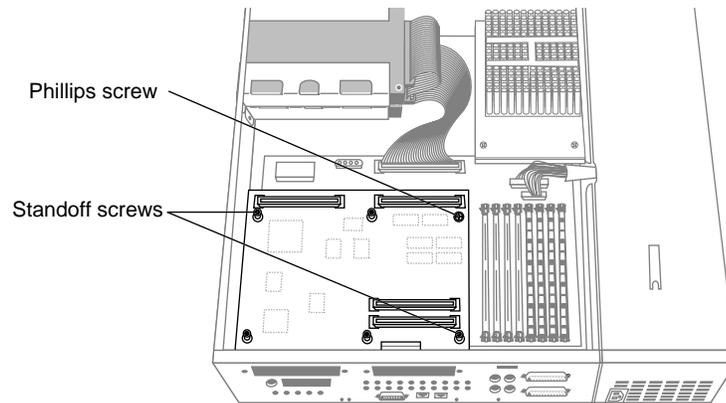

Figure 1-10 Removing the Screws From the Graphics Board
7. Use the other end of the open-ended wrench to unscrew the two standoff screws (tall, hexagonal posts) from the graphics board, as shown in Figure 1-10.